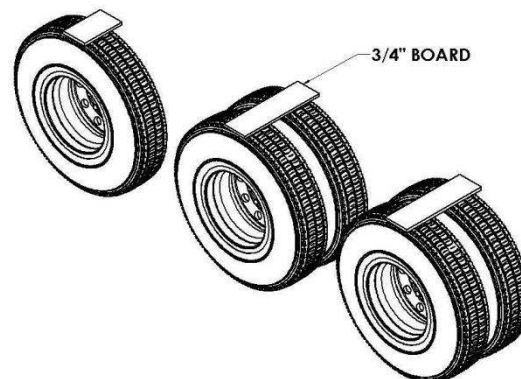

Figure 6
- a. For an air suspension system, place a 3/4" board on top of the tires after the air has been let out of the airbags (Figure 6). Place the fender on top of the board.